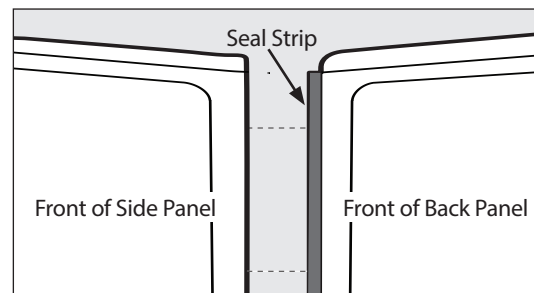

FIGURE 5. Fit side panels into place on back wall panel.
- b. Place back panel then fit side panels into place. (Fig. 5)